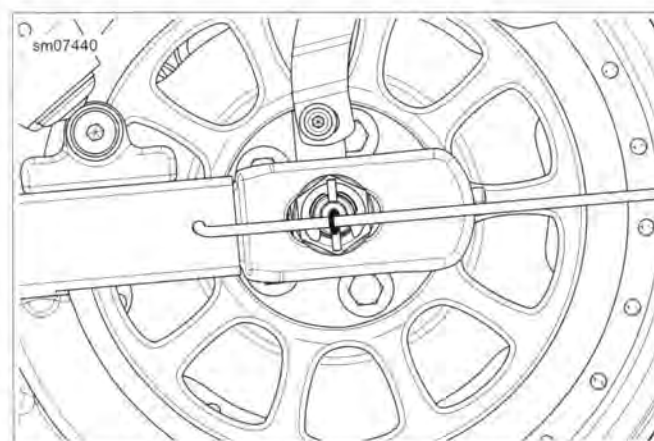

Figure 2-47. Measuring Alignment
- See Figure 2-47. Measure the wheel alignment. With the blunt point of the alignment tool inserted in the rear fork pilot hole: